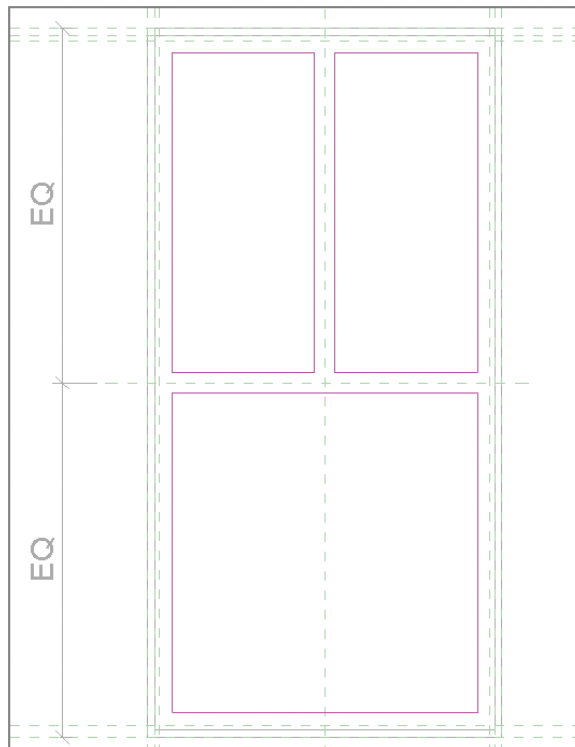

FIGURE 6.37 Modifying the window glazing
10. Select the glazing, and then click the Edit Extrusion button from the Mode panel on the contextual Modify | Frame Mullion tab. Return to the exterior elevation, and add sketch lines aligned with your previously modified window trim, as shown in Figure 6.37. You can even use the Pick Lines option in the Draw panel to make this process even easier. Remember to remove the segments of outer line using the Split tool, as you did in step 6.